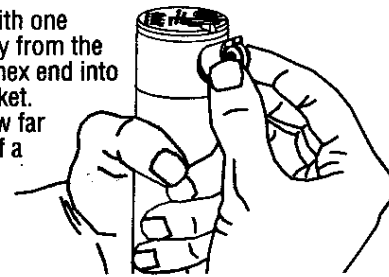

Figure 4
2. While holding the riser up with one hand (Fig. 4), remove the key from the lifting socket and insert the hex end into the distance adjustment socket. Loosen the adjustment screw far enough to clear the nozzle. If a nozzle is already installed in the sprinkler, it can be removed by briefly turning on the water, or by pulling on one of the nozzle "ears" with needle-nose pliers.
3. Slip the desired nozzle into the nozzle socket. Note that the socket is angled up 25°. Also note that the "ears" should be located at the top (Fig. 4). Tighten the adjustment screw.